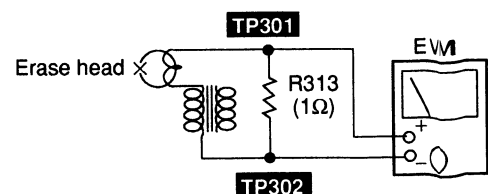

Fig. 6
1. Connect the measuring instrument as shown in Fig. 6.